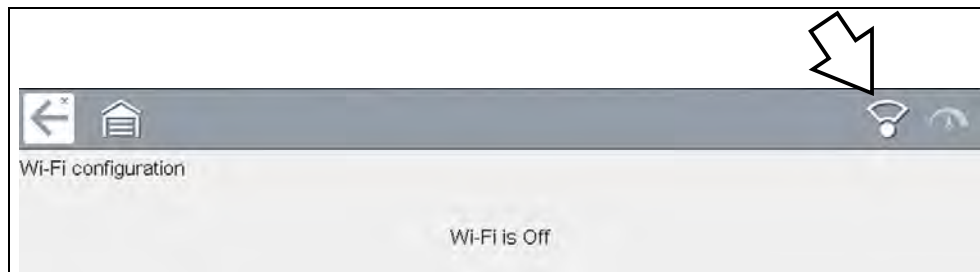

Figure 14-1 Wi-Fi Icon (shown off)
- Select the **Wi-Fi icon**  to turn Wi-Fi on (Figure 14-1).